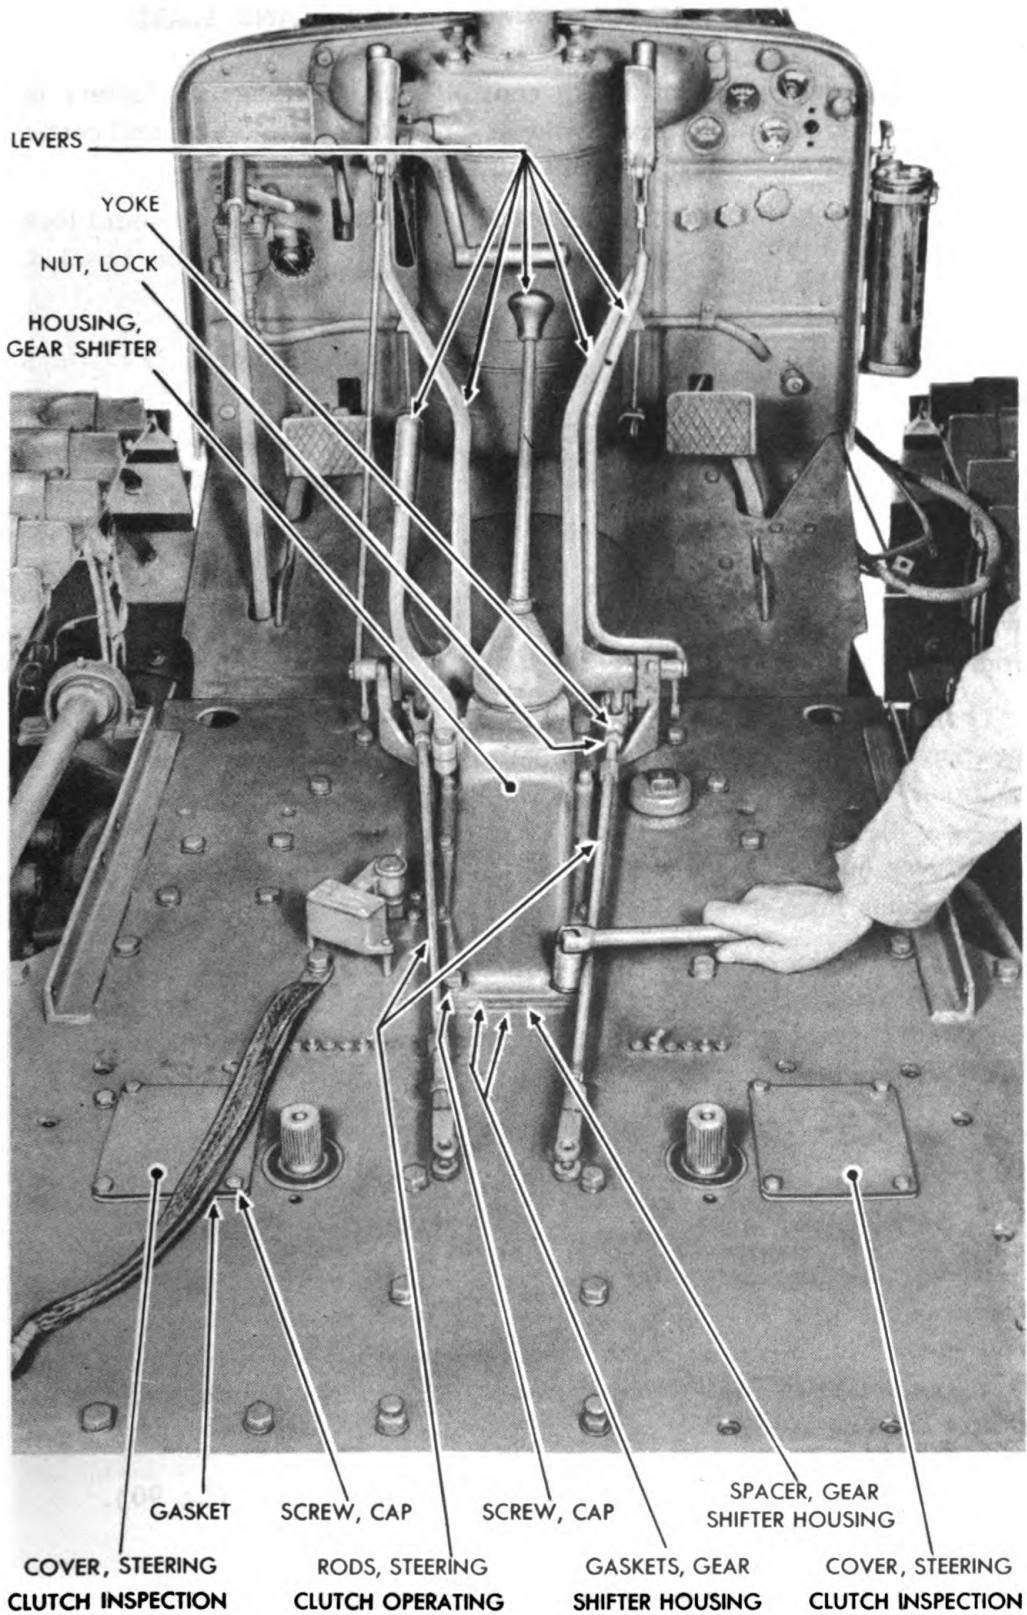

Figure 90 — Gear Shifter Housing with Levers Attached Removal
(6) REMOVE GEAR SHIFTER HOUSING WITH LEVERS ATTACHED (fig. 90).
(7) REMOVE STEERING CLUTCH INSPECTION COVERS (fig. 90).